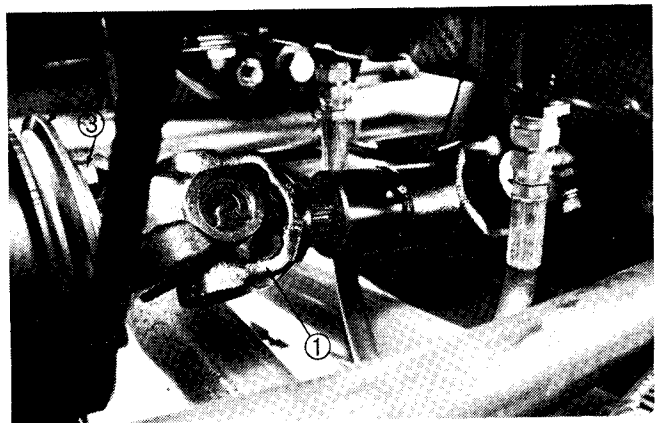

Figure 30
6. Remove four (4) capscrews to disconnect drive shaft from engine crankshaft pulley (Fig. 30).